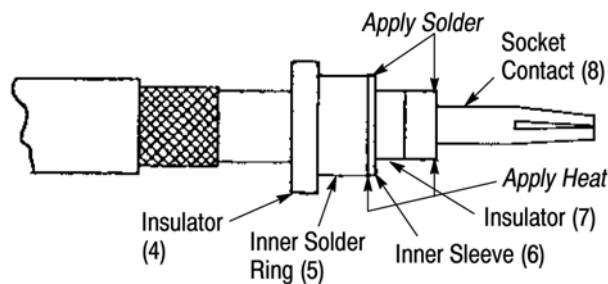

Figure 5
If the inner conductor is stranded, it must be tinned. Position insulator (7) and socket contact (8) against inner sleeve (6) as shown in Figure 5.
Holding components firmly in place, apply solder. Use only 1/32 in. diameter resin core solder. See Figure 5.